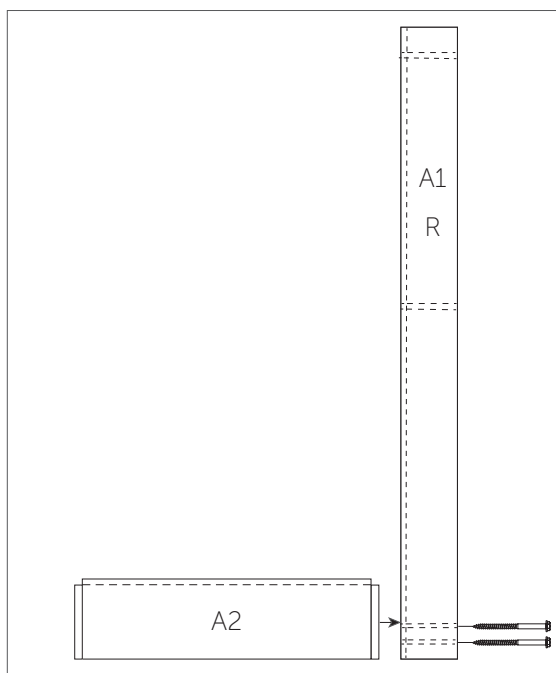

Figure 1
1. Using a rubber mallet, gently tap the lower rail (A2) into the bottom of the right stile rail (A1R). Attach the bottom rail to the side stile using a socket wrench with a 7/16" socket and two lag screws (D) (Figure 1).